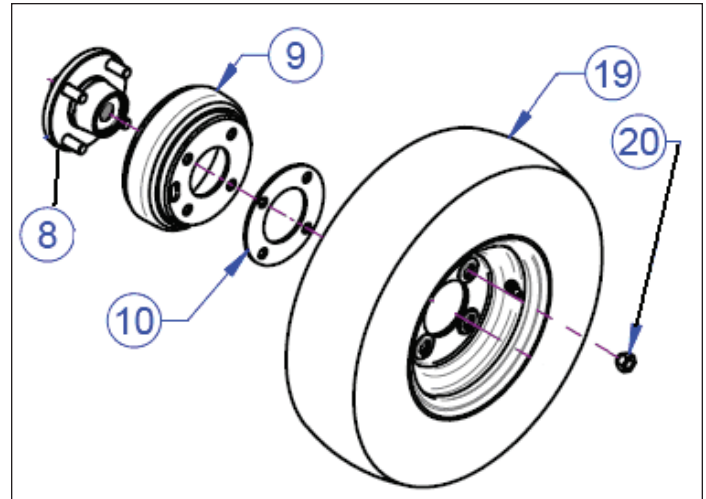

Figure 5-4. Rear Wheel/Tire Assembly
- See Figure 5-4. Remove four lug nuts (20) and remove rear wheel/tire assembly. Repeat for other rear wheel.
- See Figure 5-4. Reinstall rear wheel/tire assembly and four lug nuts (20). Tighten lug nuts in a criss-cross pattern to a maximum 65-70 ft. lbs. (23-25 Nm) Repeat for other rear wheel. Recheck lug nut torque with vehicle on the ground.
8. See Figure 5-4. Reinstall rear wheel/tire assembly and four lug nuts (20). Tighten lug nuts in a criss-cross pattern to a maximum 65-70 ft. lbs. (23-25 Nm) Repeat for other rear wheel.
1. See Figure 5-4. Remove four lug nuts (20) and remove rear wheel/tire assembly. Repeat for other rear wheel.
5. See Figure 5-4. Reinstall rear wheel/tire assembly and four lug nuts (20). Tighten lug nuts in a criss-cross pattern to a maximum 65-70 ft. lbs. (23-25 Nm) Repeat for other rear wheel.